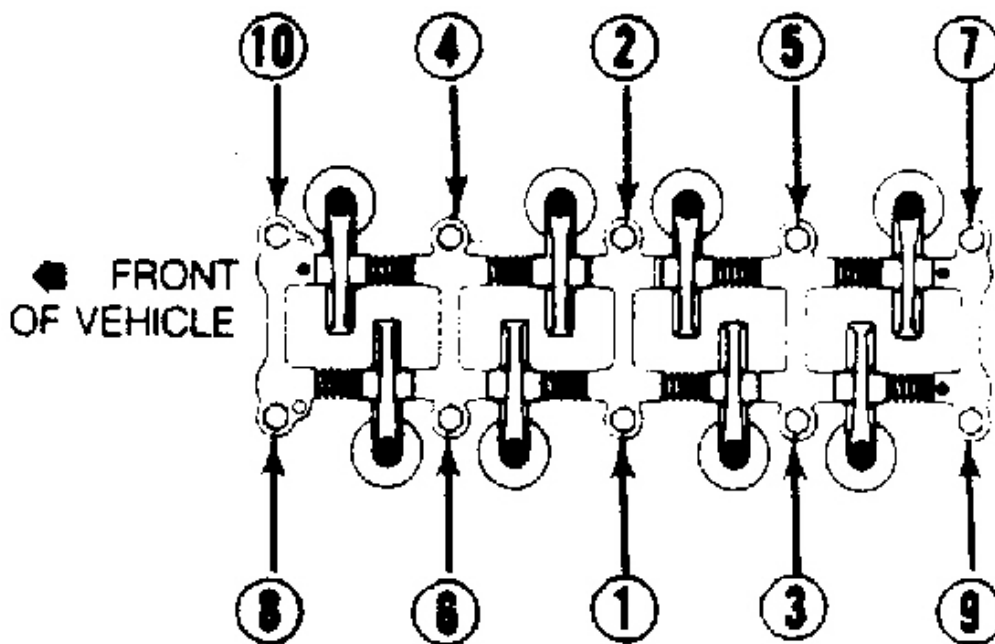

Fig. 2: Cylinder Head/Rocker Arm Bolt Tightening Sequence
6. Loosen cylinder head bolts in 3 stages, in reverse order of tightening sequence. See **Fig. 2** . Remove rocker arm assembly. If necessary, pry equally at front and rear of rocker arm assembly to remove.
2. Tighten cylinder head bolts in 3 stages in proper sequence. See **Fig. 2** . To complete installation, reverse removal procedure. Tighten all nuts and bolts to specification. Refer to **TORQUE SPECIFICATIONS TABLE** at end of article. Ensure valve and ignition timing are properly set. Adjust valves. See **VALVE CLEARANCE ADJUSTMENTS** .